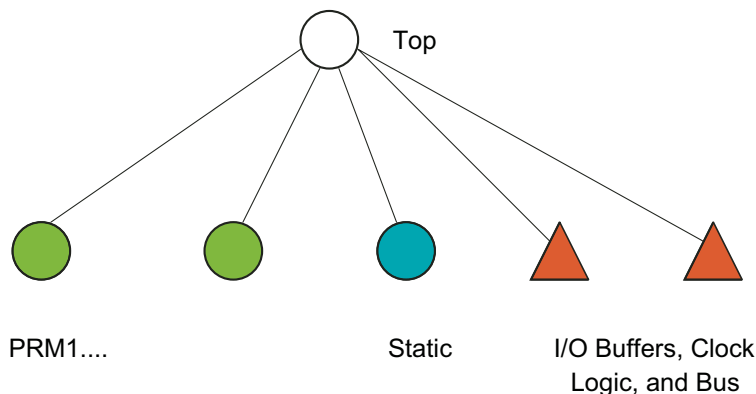

Figure 4 – The hierarchy for a partial reconfiguration design
- When you have completed the floor-planning in PlanAhead design tools, the resulting physical hierarchy will be organized as shown in Figure 4.